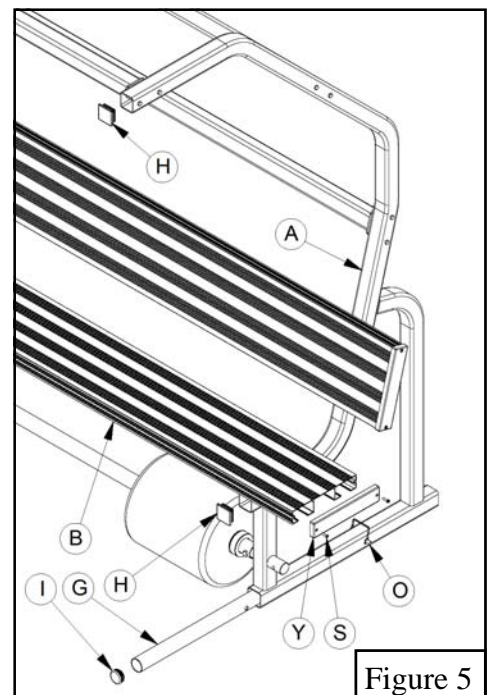

Figure 5
6. Press Round Plugs (I) into the open end furthest from the holes on the Outriggers (G). Insert Outriggers (G) into the lowest opening of each Leg Assembly (A) and secure with Snap Link Pin (O). See Figure 5.
7. Press Square Plugs (H) into the open ends of Leg Assemblies (A). See Figure 5.
8. Use #10 X $3/4''$ Sheet Metal Screws (S) to install End Caps (Y) on each end of Aluminum Seat (B). See Figure 5.